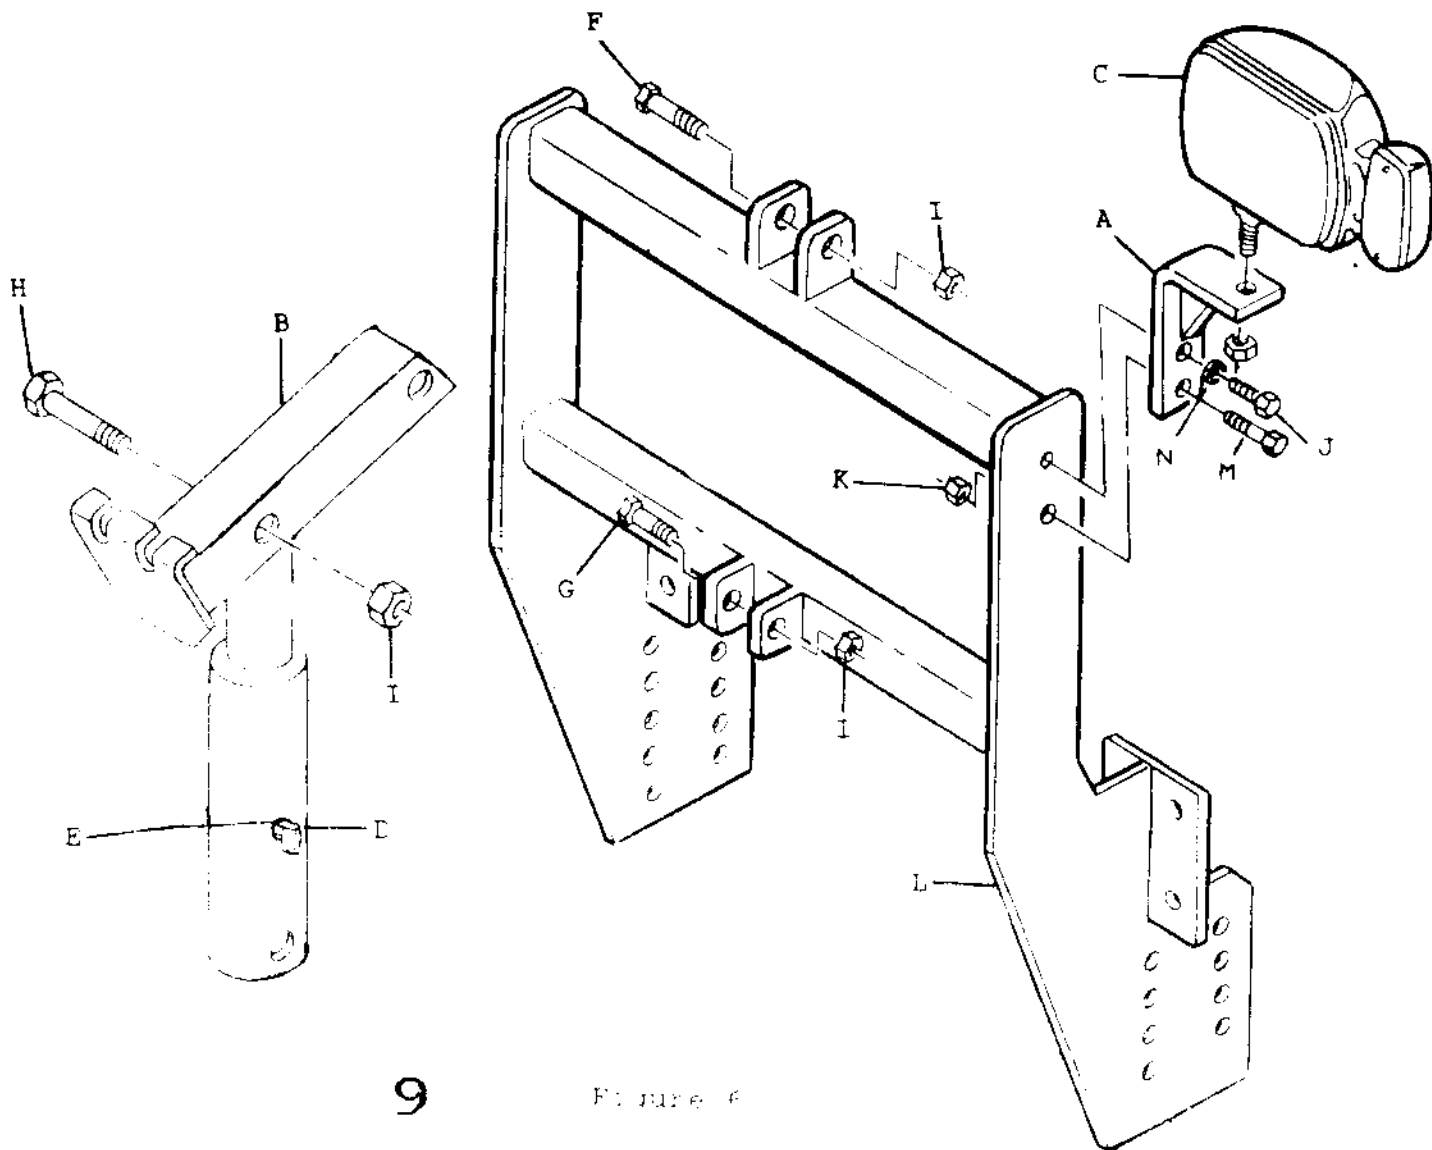

Figure 6
1. Install the AUXILIARY LIGHT BRACKETS (Ref. No. A, Fig. 6) to the LIFT TOWER as shown in Figure 6 using the hex head bolts, nuts, and lock washers provided.
2. Install LIFT ARM (Ref. No. B, Fig. 6) to the top of the LIFT TOWER ASSEMBLY using the 5/8" x 4-1/2" HEX HEAD BOLT (Ref. No. F, Fig. 6) and 5/8" SELF LOCKING NUT (Ref. No. I, Fig. 6) provided.
3. Position the LIFT CYLINDER (Ref. No. D, Fig. 6) in its respective position on the LIFT TOWER and fasten by using the 5/8" x 4" HEX HEAD BOLT (Ref. No. G, Fig. 6) and 5/8" SELF LOCKING NUT (Ref. No. I, Fig. 6) provided. Be sure the hydraulic port is facing forward and install the 90 DEGREE SWIVEL FITTING (Ref. No. E, Fig. 6) facing downward. Fasten the rod end of the cylinder to the LIFT ARM using the 5/8" x 3-1/2" HEX HEAD BOLT (Ref. No. H, Fig. 6) and 5/8" SELF LOCKING NUT (Ref. No. I, Fig. 6) provided.
4. Mount the AUXILIARY HEADLIGHTS (Ref. No. C, Fig. 6) to the AUXILIARY LIGHT BRACKETS as shown in Figure 6. Do not tighten the AUXILIARY HEADLIGHT mounting nut as the positioning of the lights will have to be adjusted once the wiring has been completed.